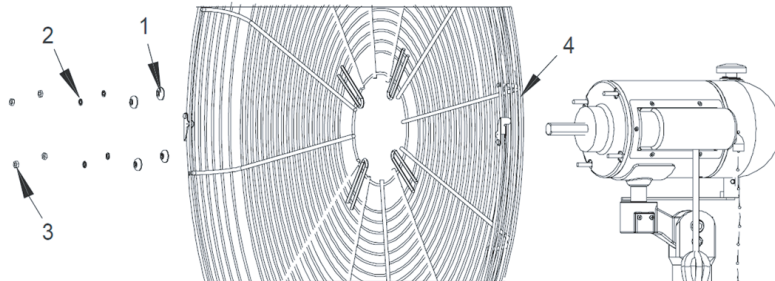

Fig. 6.
5. Attach the rear guard (4) to the screws found on the motor and secure them together using four bowl washers (1), four spring washers (2), and four nuts (3) from step 4. See Fig. 6.